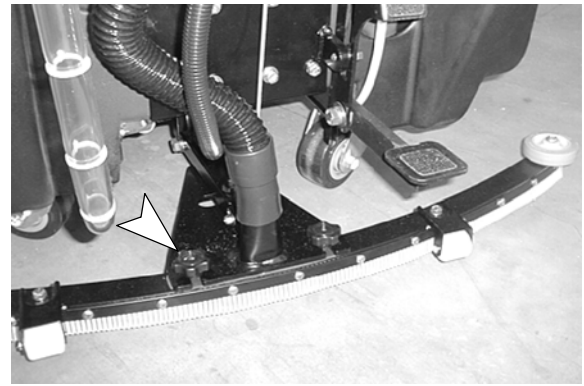

FIG. 2
2. Loosen two thumb knobs on squeegee and slide squeegee into slots at rear of squeegee mount bracket. Be certain that squeegee roller wheels are toward the rear (Figure 2).